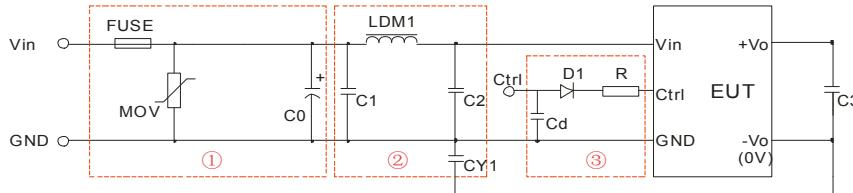

Fig. 3
RE	CISPR32/EN55032 CLASS B (see Fig. 3-② for recommended circuit)
- (1) Part ① in Fig. 3 is used for EMS test while part ② is used for EMI filtering; and parts ① and ② may be selected based on needs.
- (2) V_c is the voltage of the Ctrl end relative to the GND of the input grounding; V_d is the positive-going conduction pressure drop of D1; I_c is the current flows into the Ctrl end and its value is generally 5-10mA, see Fig. 3-③ for the peripheral circuit of Ctrl end;
- (3) If there is no recommended parameters, no external component is required.